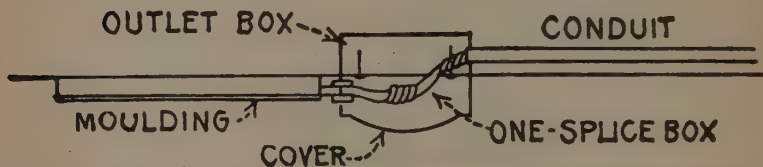

FIG. 875.—Method of tapping outlets for feeder circuits when wiring with wooden moulding.
3. When wooden moulding is used in connection with solid pipe or flexible tube conduit, an iron box or conduitlet must be installed where the system of wiring changes, as shown in fig. 875. The pipe conduit is secured to the box by means of lock nuts, with porcelain bushings or flexible tubes protecting the wires. In all cases the loom should run up to the moulding.